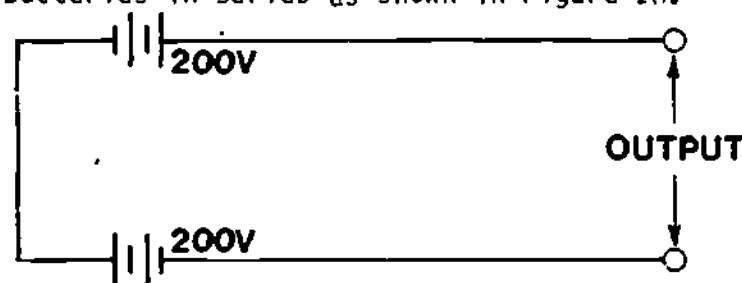

figure 10
- (11.) The effect of series aiding is comparable to connecting two 200 volt batteries in series as shown in Figure 10.
The series aiding output voltage of Figure 10 is _____ volts.